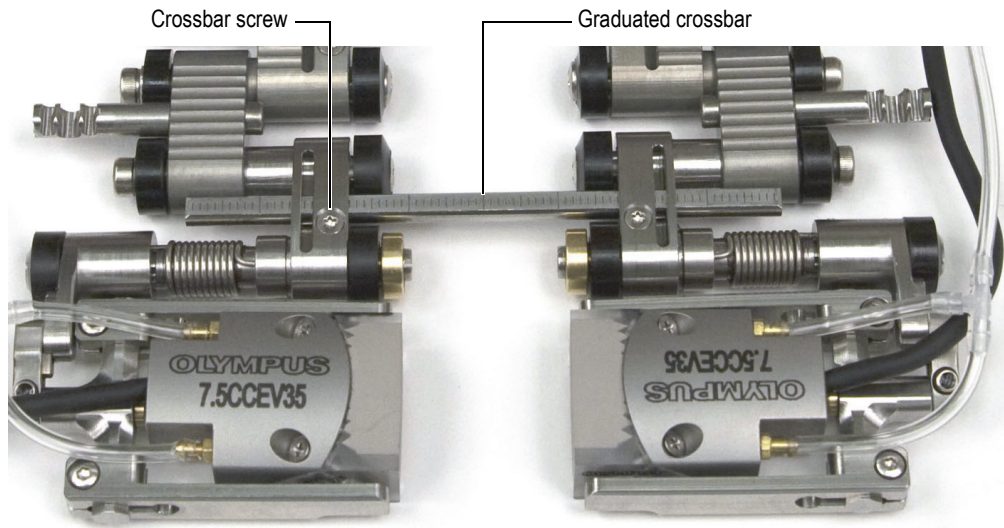

Figure 2-21 The graduated crossbar
- (1) Slide one crossbar through the link of each probe holder, and then clamp the cross bar in the desired position with the crossbar screws.
- (2) Slide the second crossbar through the male links that are roughly in the center of the scanner, and then clamp the crossbar in place with the crossbar screws.
- (3) Use the graduations on the crossbars (see Figure 2-21 on page 48) to set an equal separation at both crossbar locations.
4. For dual-probe scanning, you need to assemble the two halves of the scanner (see Figure 2-21 on page 48):